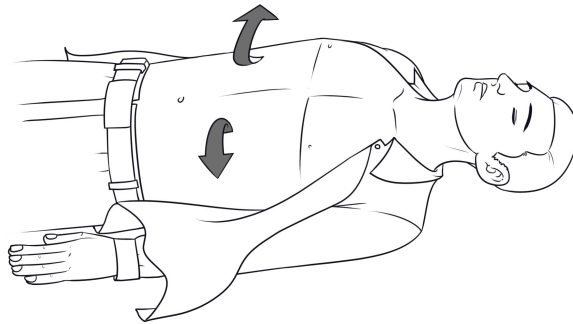

Figure 8 Removing all clothing from the patient's chest
- 1) Expose the patient’s chest, as shown in figure 8,